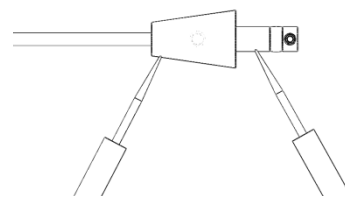

Figure 3 - Continuity Test #2
1. Install bulb (D), not included, into socket (F).
2. Raise glass (E) into fixture (C) and thread glass (E) onto socket (F) until it stops, being careful not to over tighten. (Figure 3)